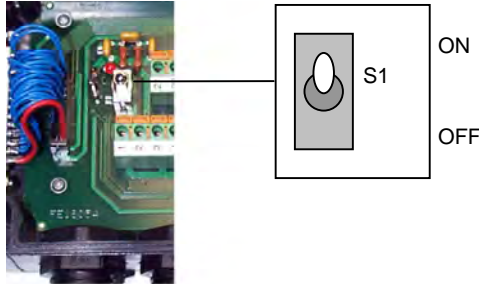

Figure 6 - Power switch ON/OFF positions
Switch ON the C-BOX 100 power switch (see Figure 6).
The power switch (see Figure 6) switches the power supply ON or OFF for both the C-BOX 100 and the connected scanner.
- 2) Verify that the C-BOX 100 power switch is off (see Figure 6).